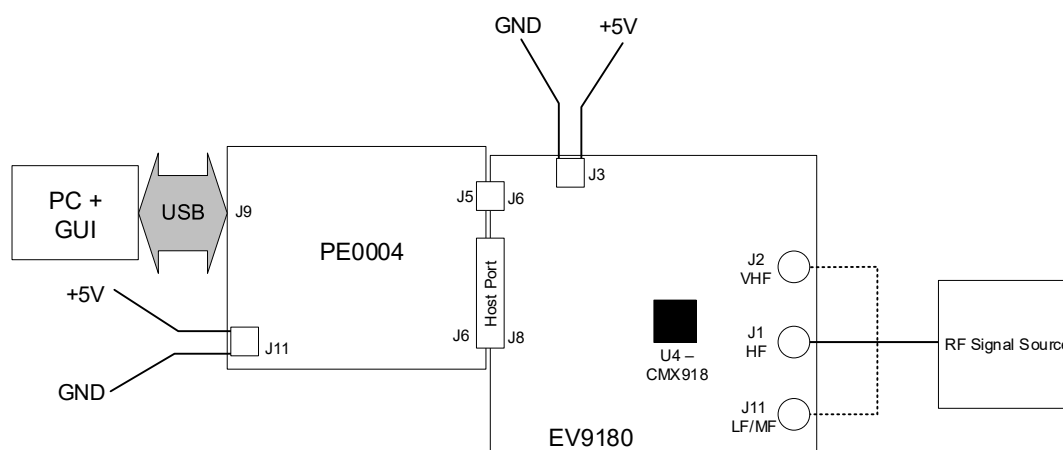

Figure 2 - Typical Evaluation Connections for EV9180
This document refers to latest revision of the of the ES9180 GUI (ES9180xx.exe). GUI Installation is covered in Section 7.4.1. System connectivity is shown in Figure 2.
1. Connect the boards as shown in Figure 2.